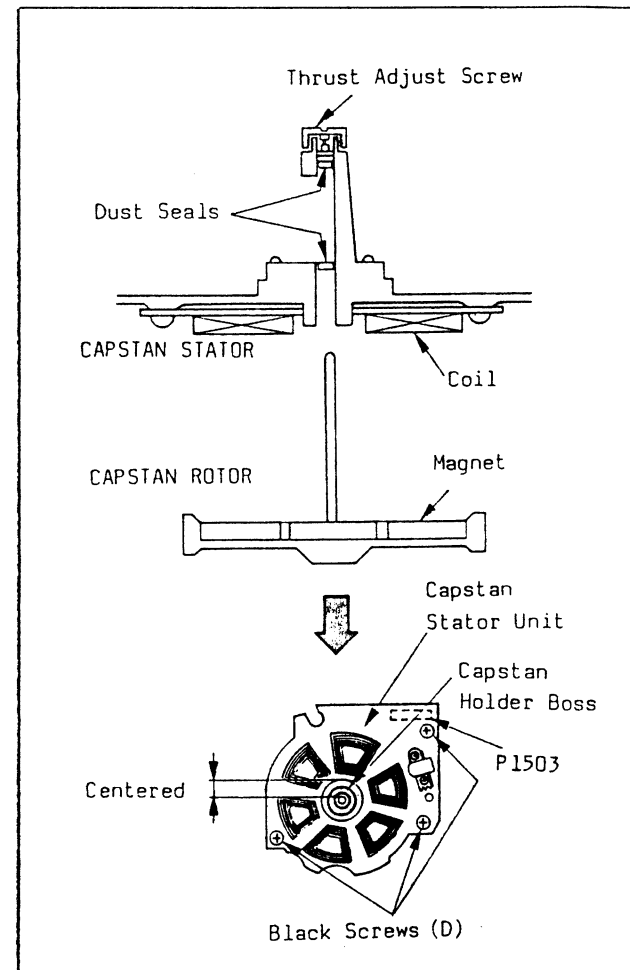

Fig. M20
3. Carefully pull out the Capstan Rotor Unit, taking care so as not to lose the 2 Dust Seals as shown in Fig. M20.
7. Replace the new Capstan Rotor, carefully inserting the 2 Dust Seals as shown in Fig. M20.